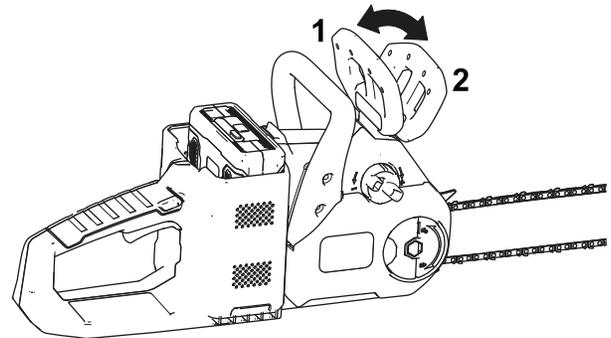

Figure 27
2. Engage the chain brake by moving the chain brake forward to the STOP position (Figure 27).
4. Disengage the chain brake by moving the chain brake rearward to the OPERATING position (Figure 27).